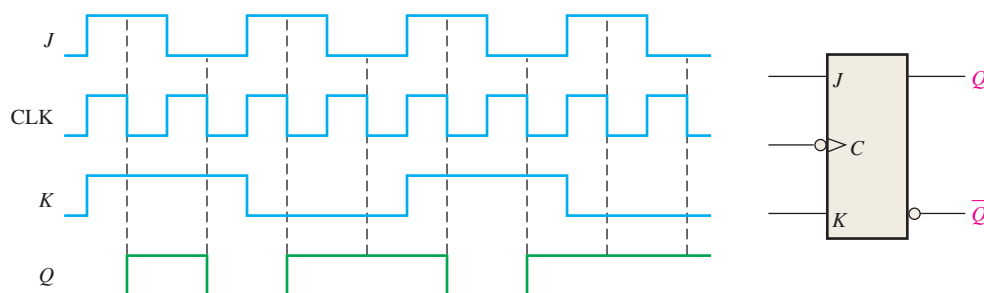

FIGURE 7-94
34. Determine if the flip-flop in Figure 7-94 is operating properly, and if not, identify the most probable fault.